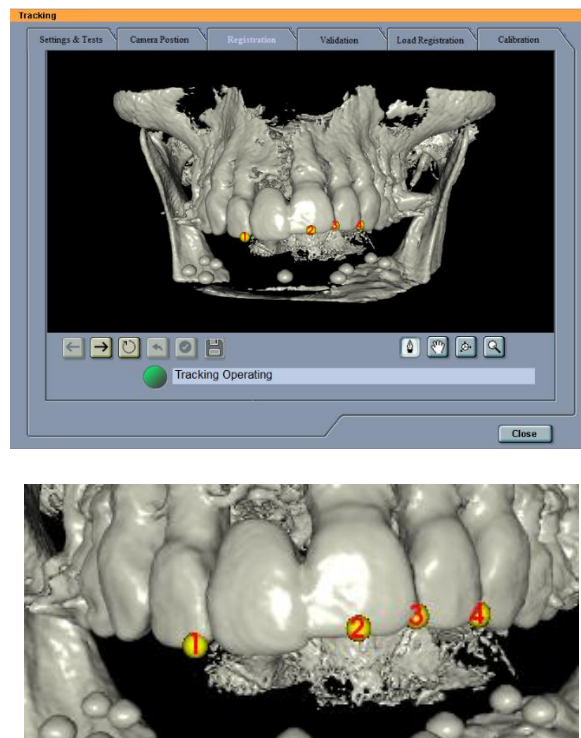

Figure 93: Anatomic Registration: 4 landmarks chosen
19. If **"Registration ended successfully"** appears on the screen, save the registration by pressing the save button, see **Figure 93: Registration Ended Successfully** on page **141**. Go to step 19 Validation.